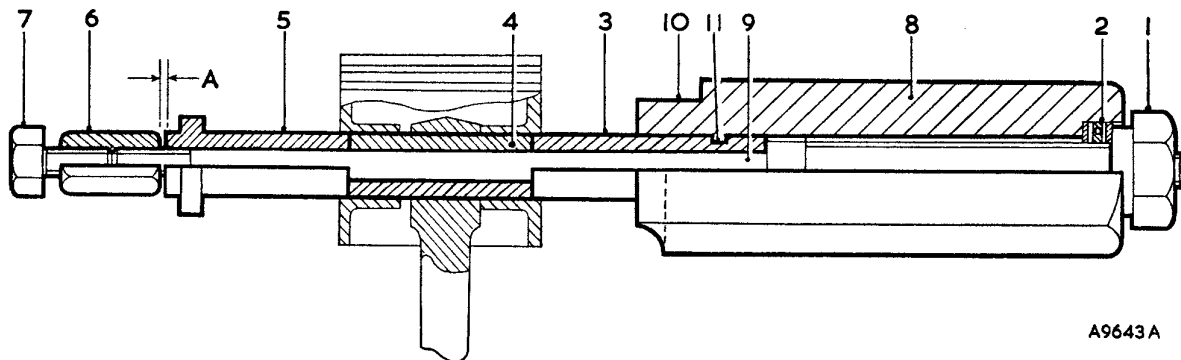
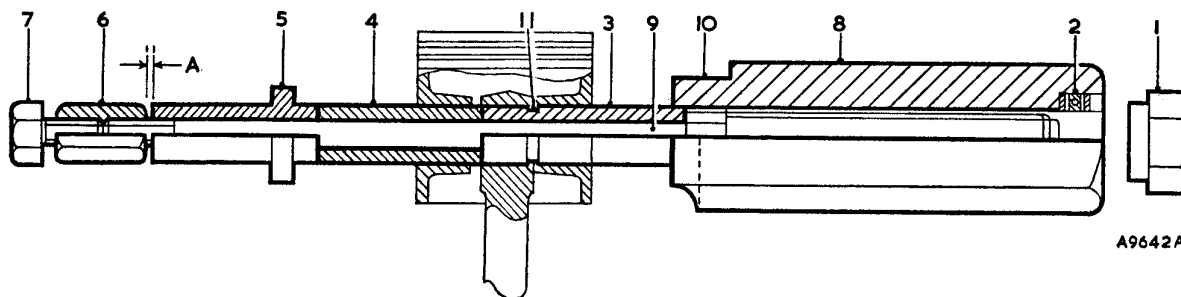

Fig. Aa.4
Fig. Aa.5
- (4) Retain the hexagonal body (8) of Service tool 18G 1002 in a vice with the cut-out (10) uppermost (see Fig. Aa.4).
- (5) Screw the large nut (1) back until it is flush with the end of the centre screw (9), push the screw and nut forward until the nut contacts the thrust race (2).
- (6) Slide the parallel sleeve (3), short length diameter first, on to the centre screw up to the shoulder.
- (7) Place the piston assembly on the centre screw, then fit the remove/replacer bush (5), longest diameter portion towards the piston.
- (8) Screw the stop nut (6) onto the centre screw and adjust it until there is approximately 3/8 in. (.8 mm.) end-play in the whole assembly, ensuring that the parallel sleeve and the remover/replacer bush are correctly located in the gudgeon pin bores on both sides of the piston.
- (9) Lock the stop nut securely in position with the lock screw (7).
- (10) Check that the curved face of the body is clean, then slide the piston assembly carefully into position against the curved face. Check that the piston rings are over the cut-out in the tool body.
- (11) Screw the large nut (1) up to the thrust race (2).
- (12) Hold the lock screw (7), not the stop nut, with a spanner, and turn the large nut (1) until the gudgeon pin is withdrawn from the piston.
- (13) Remove the large nut (1) of Service tool 18G 1002, and pull the centre screw out a few inches as shown in Fig. Aa.5.
- (14) Slide the parallel sleeve (3), longest length diameter portion first, on to the centre screw up to the shoulder.
- (15) Place the piston on the connecting rod small end up to the undercut (11).
- (16) Smear the gudgeon pin with thin oil and slide it over the centre screw and into the piston bore up to the face of the connecting rod.
- (17) Slide the remover/replacer brush, short spigot towards the gudgeon pin, on to the centre screw.
- (18) Screw the stop nut (6) onto the centre screw, adjust the nut to give  $\frac{1}{32}$  in. (.8 mm.) end-play, and lock the nut securely in position with the lock screw (7).